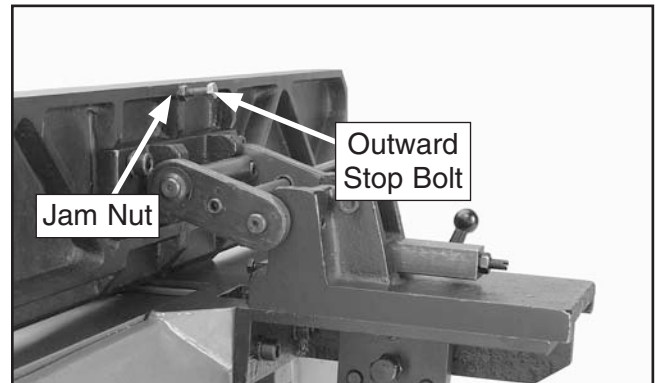

Figure 31. Outward stop bolt detail.
5. With the outward stop bolt resting against the fence bracket, adjust the length of the stop until the fence is at 45°, then tighten the jam nut (see **Figure 31**).